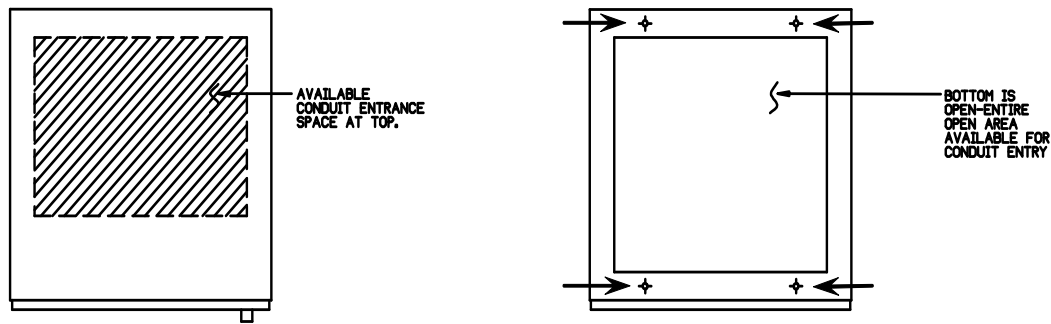

Figure 5: Anchoring the Switch.
- Anchor the switch to the floor (Figure 5) with four 1/2-inch Grade 2 minimum bolts, flat washers, and anchors (not furnished).